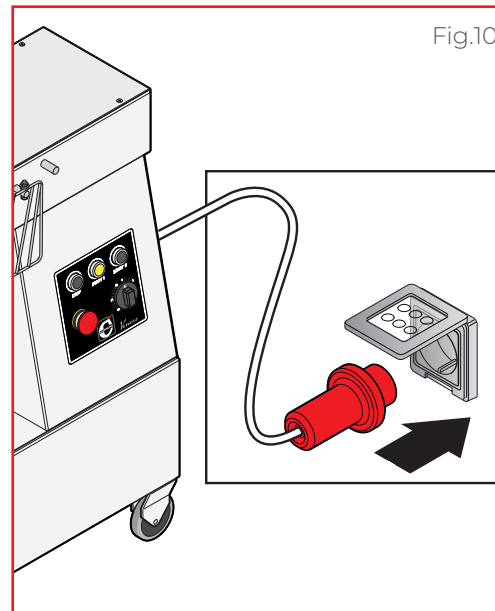

Fig.10
► **Fig.10** After connection, make sure that the cable: